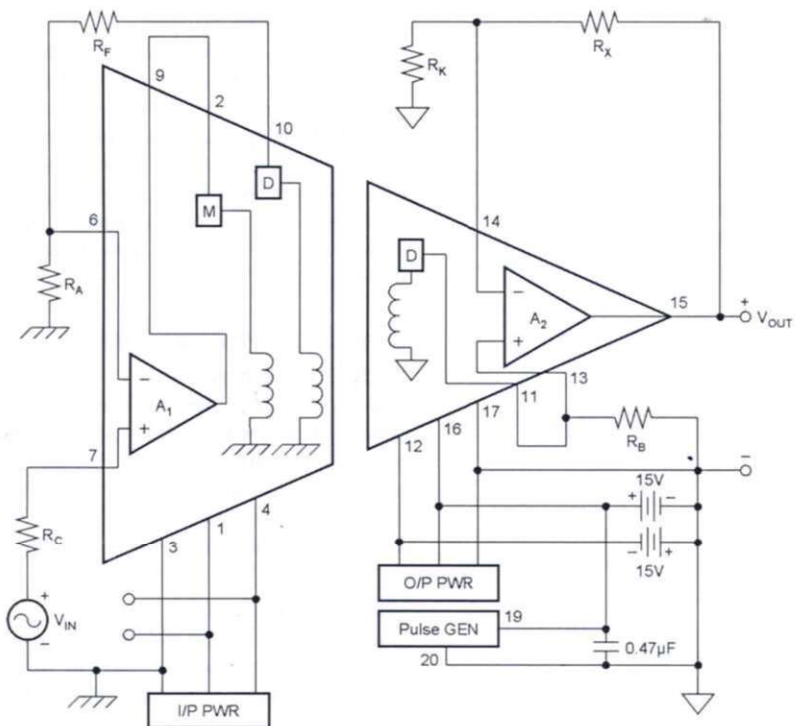

FIGURE 3. Power: Two-Port, Dual Supply; Signal: Noninverting Gain.
NOTES: (1) Ratings in parenthesis are between P- (pin 20) and O/P Com (pin 17). Other isolation ratings are between I/P Com and O/P Com or I/P Com and P-. (2) See Performance Curves. (3) May be trimmed to zero. (4) If output swing is unipolar, or if the output is not loaded, specification same as if external supply were used. (5) Includes effects of A₁ and A₂ offset voltages and bias currents if recommended resistors used. (6) Versus the sum of all external currents drawn from V+, V-, +V, -V (= ISO). (7) Effects of A₁ and A₂ bias currents and offset currents are included in Offset Voltage specifications. (8) With respect to I/P Com (pin 3) for A₁ and with respect to O/P Com (pin 17) for A₂. CMR for A₁ and A₂ is 100dB, typical. (9) In configuration of Figure 3. Ripple frequency approximately 750kHz. Measurement bandwidth is 30kHz. (10) Decreases linearly from 16VDC at 85°C to 12VDC at 100°C. (11) Instantaneous peak current required from pins 19 and 20 at turn-on is 100mA for slow rising voltages (50ms) and 300mA for fast rises (50μs). (12) Load current is sum drawn from +V, -V, V+, V- (= I_{SC}). (13) Maximum voltage rating at pins 1 and 4 is ±18VDC; maximum voltage rating at pins 12 and 16 is ±18VDC. (14) Isolation ratings may degrade if exposed to 125°C for more than 1000 hours or 90°C for more than 50,000 hours.
Figure 3 shows two-port isolation which uses an external bipolar supply with its common connected to the output stage ground (pin 17). One of the supplies (either + or - could be used) provides power to the pulse generator (pins 19 and 20). The same sort of configuration is possible with the external supplies connected to the input stage. With the connection shown, filtering at pins 12 and 16 is not required. In this configuration continuous isolation voltage rating is: 3500VDC between pins 3 and 17; not applicable between pins 17 and 19; 3500VDC between pins 3 and 19.
The signal path portion of Figure 3 demonstrates two additional gain configurations: gain in the output stage and noninverting gain in the input stage. The following equations apply:
Use the resistor values obtained in Steps 3, 4, 8 and 9, and connect the 3656 as shown in Figure 3.